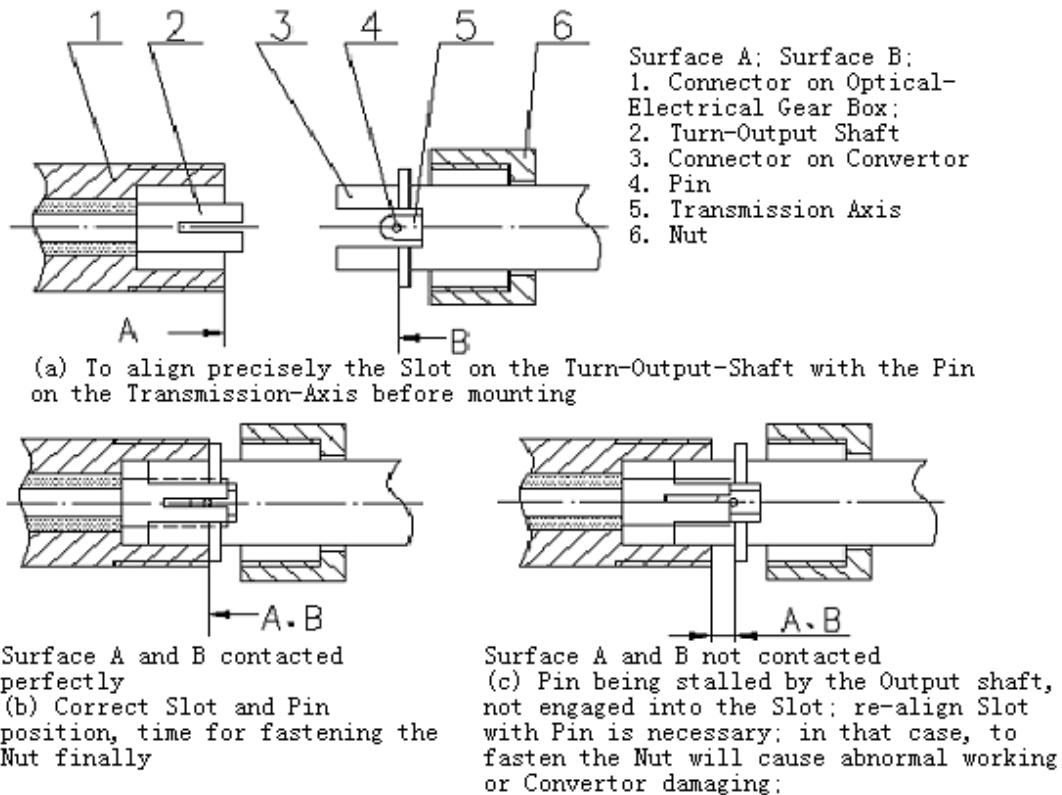

Fig. 6
- c) to place the Converter on the Flow Meter connector carefully, as shown in Fig.6; to ensure the pin inserting into the axis slot, to align the Pin with Slot in advance; softly insert the converter connector into the connecting hole; as shown on Fig.6b, when Surface A and Surface B being contacted perfectly, it means the Pin is into the Slot, then fasten the Nut to fix the Converter; if Surface A and B do not meet (as shown in Fig.6c ), it means Pin being stalled by the Slot, take out the Converter and try to do it again;